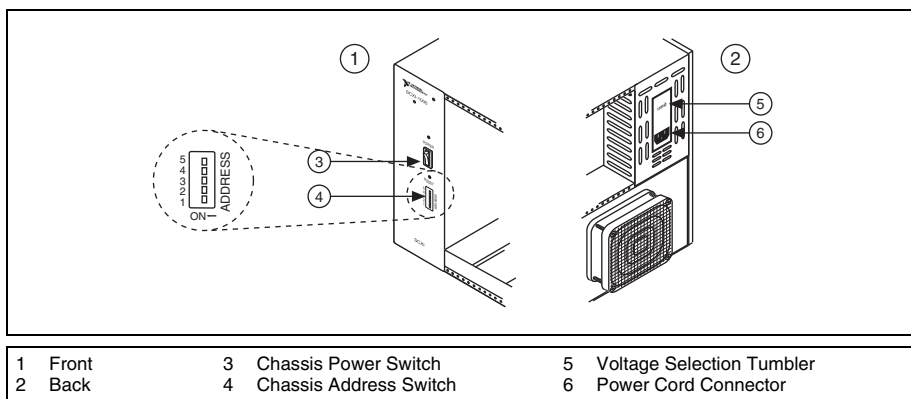
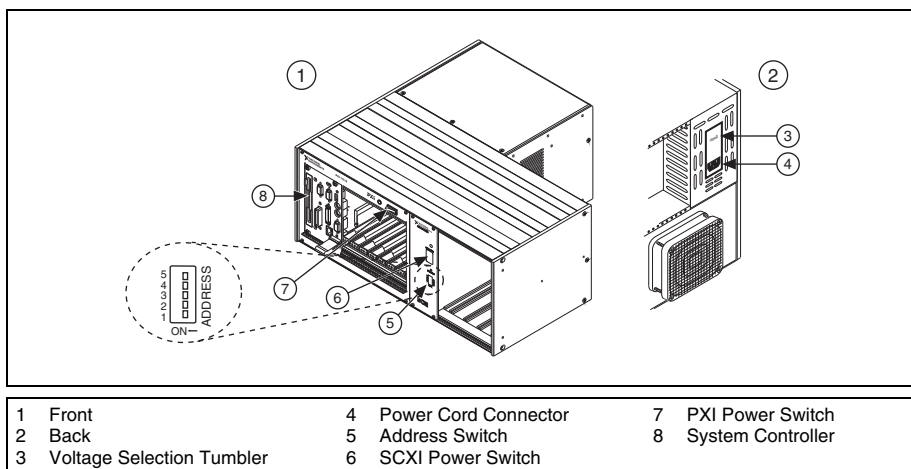

Figure 3. SCXI Chassis Setup
Figure 4. PXI/SCXI Combination Chassis Setup
- If the chassis has address switches, you can set the chassis to a desired address. When configuring the chassis in MAX in Step 12, make sure the software address settings match the hardware address settings. All switches are shown in the off position, the default setting, in Figure 3.
2. Set the SCXI chassis address switch positions to the desired address. In Figure 4, all switches are shown in the off position.
If you are using an SCXI chassis, the chassis power switch is shown in Figure 3. If you are using a PXI/SCXI combination chassis, the PXI and chassis power switches are shown in Figure 4.